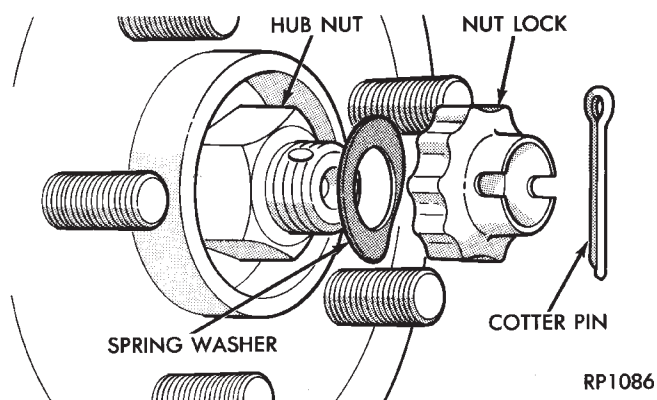

Fig. 2 Cotter Pin, Nut Lock and Spring Washer
- (1) Remove cotter pin, nut lock, and spring washer from the end of the outer C/V joint stub axle (Fig. 2).